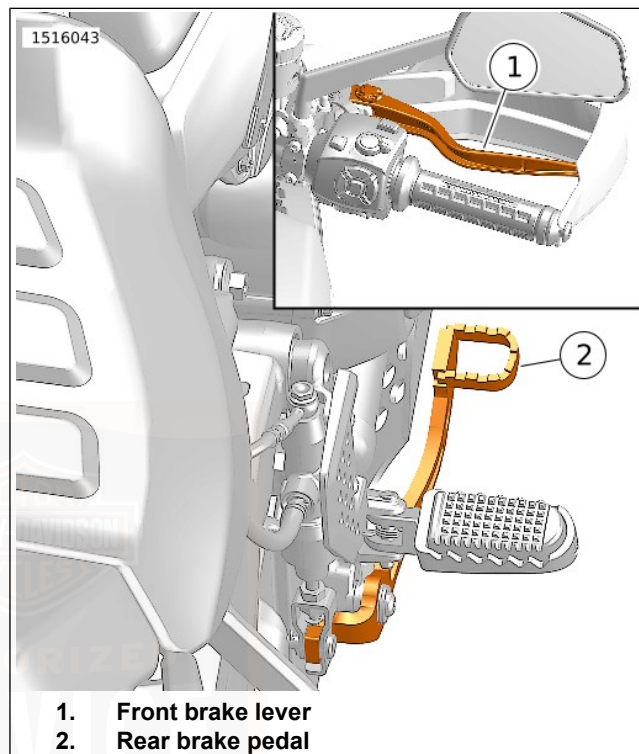

Figure 45. Brake Controls
See Figure 45. The front brake hand lever (1) controls the front wheel brake. The lever is on the right handlebar. Operate the hand lever with the fingers of the right hand.
See Figure 45. The rear brake pedal (2) controls the rear wheel brake. The pedal is on the right side. Operate the rear brake pedal with the right foot.